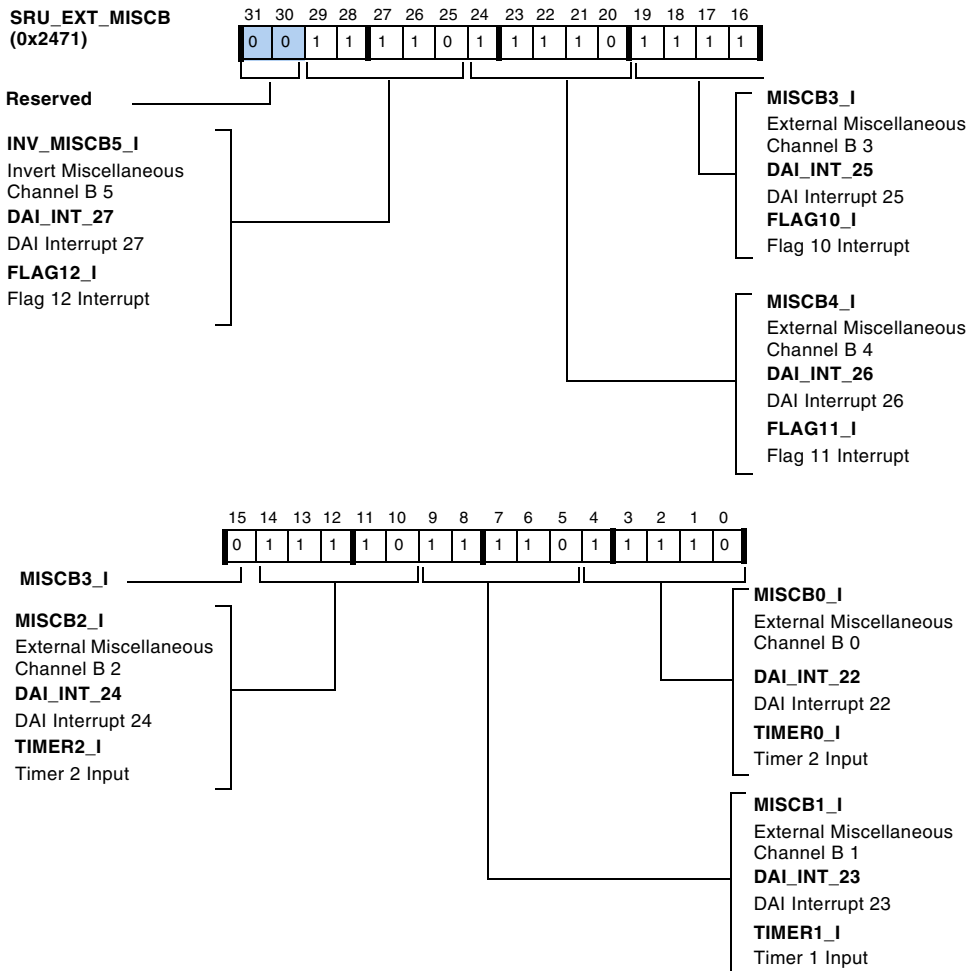

Figure A-51. SRU\_EXT\_MISCB Register
- SRU\_EXT\_MISCB, described in Figure A-51 on page -134